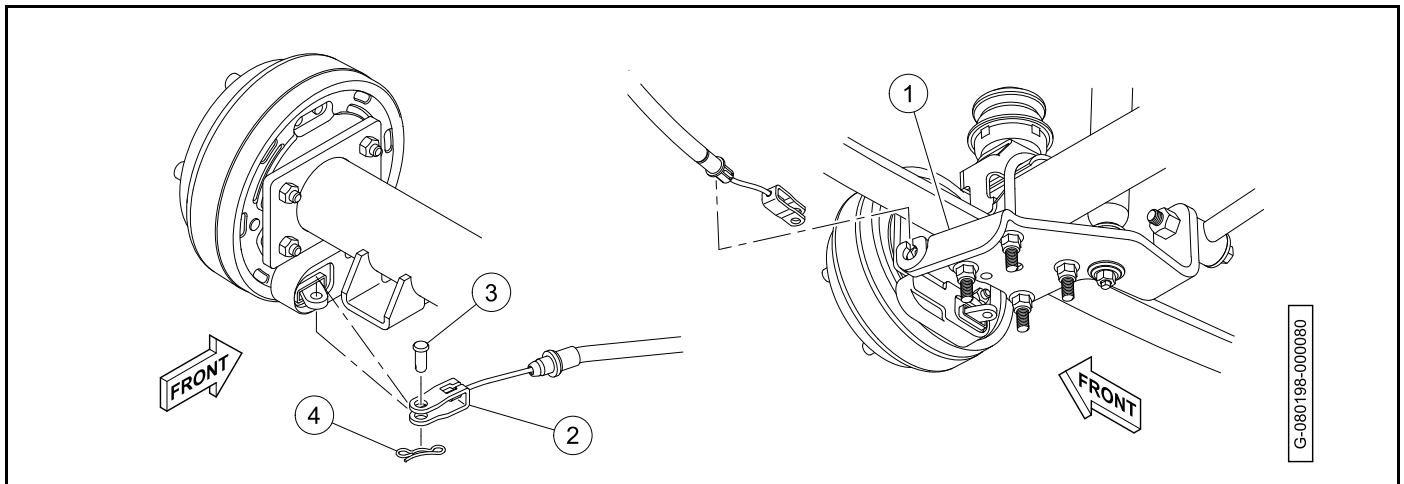

Figure 9-20
2. Install the bolt (2) and nut (3). Tighten the nut to 18.5 lb·ft (25 N·m).
4. Install the bolt (4) and nut (5). Tighten the nut to 18.5 lb·ft (25 N·m).
5. Install the shock mount bracket (6), U-bolts (7), and nuts (8). Tighten the nuts to 45 lb·ft (60 N·m).
7. Install the rubber bushing (9), cup washer (10), and nut (11). Tighten the nut until the rubber bushing is the same size as the cup washer.
8. Install the brake cable onto the shock mount bracket (1) (**Figure 9-20, Page 9-17**).